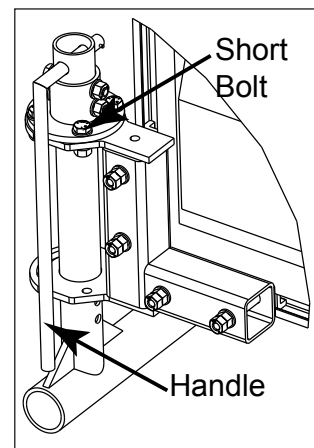

Figure 23: Webcam Arm Bolts
1. Remove the three short bolts from the elbow assembly. Refer to **Figure 23**.